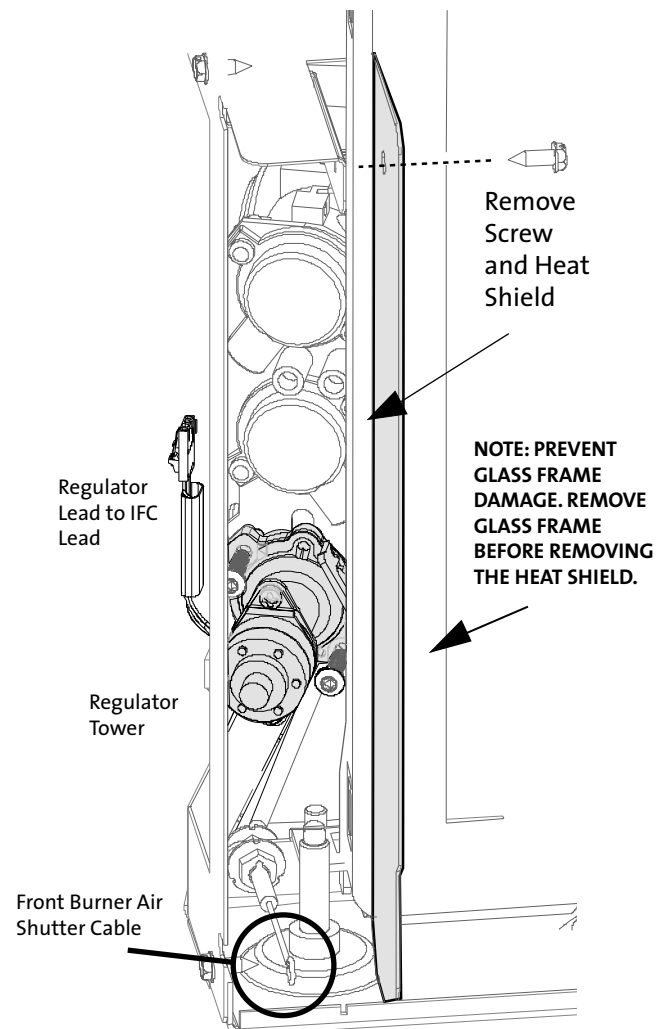

Figure 16. Replace the Regulator Tower.
3. **RETRACT THE AIR SHUTTERS:** Two Air Shutter cables are located at the floor of each side compartment. Push each cable fully in. This action retracts the shutters and allows the burner to be disengaged from the firebox. See figs. 16 and 58.
7. **CHANGE THE VARIABLE REGULATOR TOWER** on the gas control valve. See fig. 16.